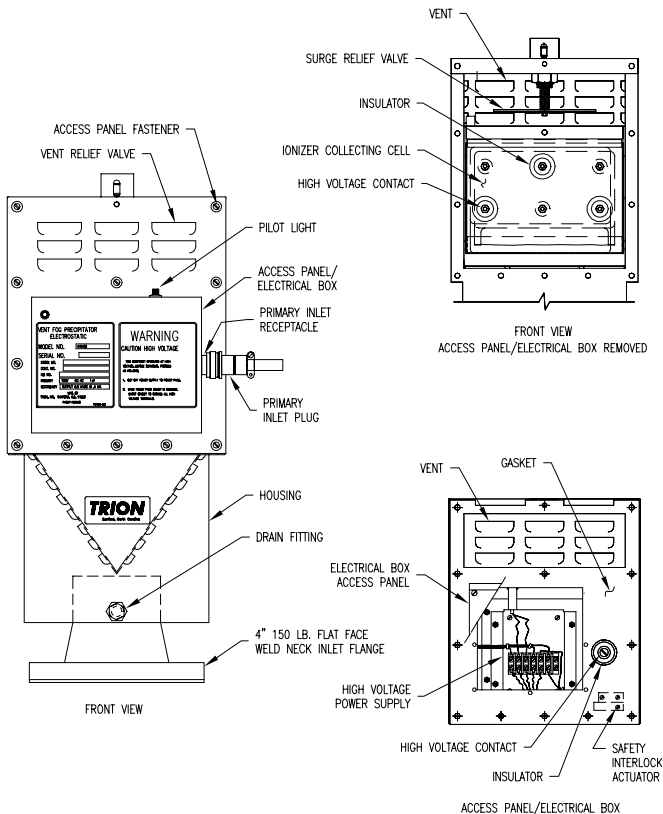

FIGURE 5-1 Access Panel/Electrical Box
5-3.1 **SHORT CIRCUIT.** (See figure 5-1.) A short circuit is indicated by the pilot light off and a visible emission of oil mist from the precipitator. Locating the problem requires working with electrically energized circuits and access to high voltage. A short circuit can occur in either the precipitator or the power pack. The location of the fault can be isolated by a process of elimination, using a voltage tester.
5-3.1.2 Access Panel/Electrical Box Short Circuit. (See figure 5-1.) To isolate the fault, perform the following:
5-3.1.3 Precipitator Short Circuit. (See figure 5-1.) If the fault is indicated to be in the precipitator, perform the following:
- g. Lift ionizing cell from the precipitator housing. (See figure 5-1.)
- g. Clean electrical box contacts with a cloth. (See figure 5-1.)